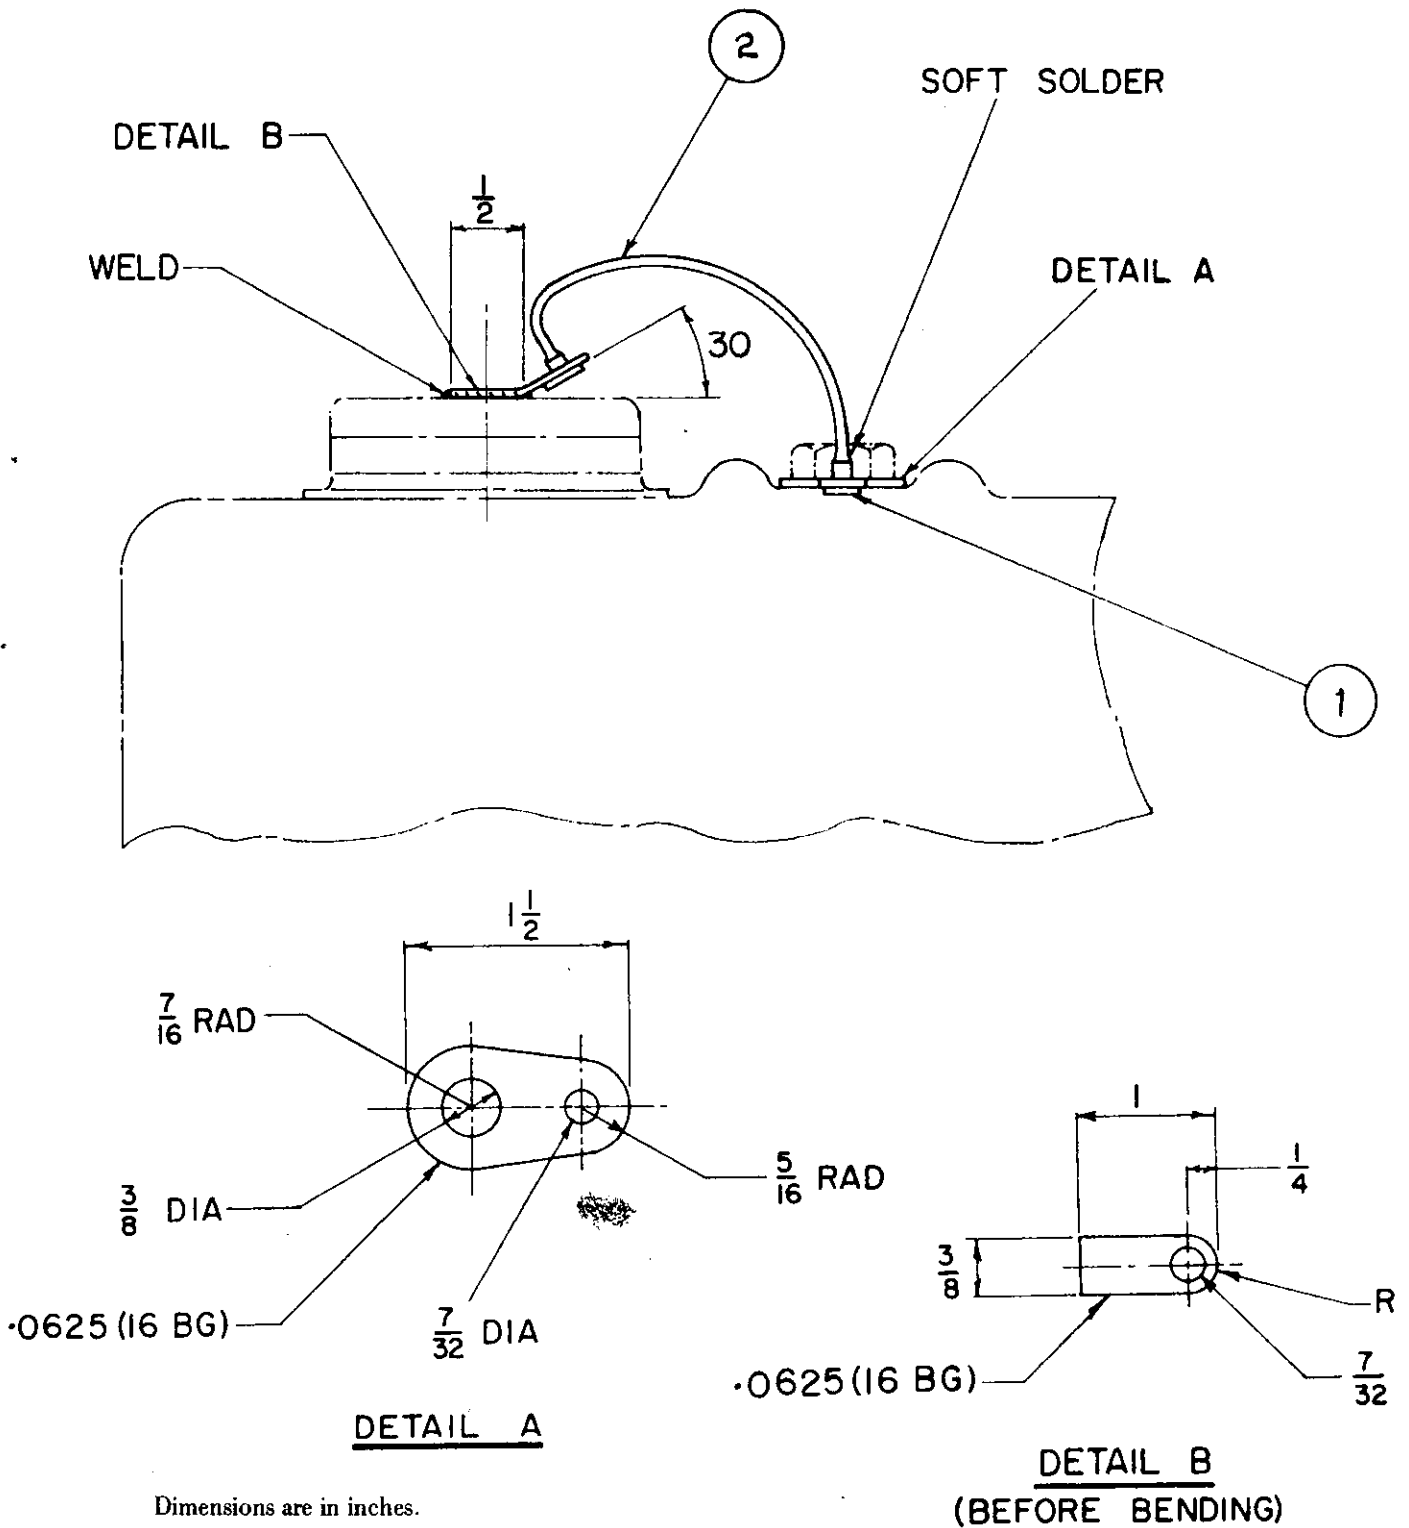

FIG. 1 - FITTING SECURING WIRE
- a. Manufacture detail A in accordance with fig 1.
- b. Manufacture detail B in accordance with fig 1.
- c. Weld detail B to the oil filler cap and bend to the required angle as shown in fig 1.
- e. Insert one end of the Bowden cable into the hollow of the rivet (item 1) and secure with soft solder.
- g. Re-assemble components back on engine as shown in fig 1.